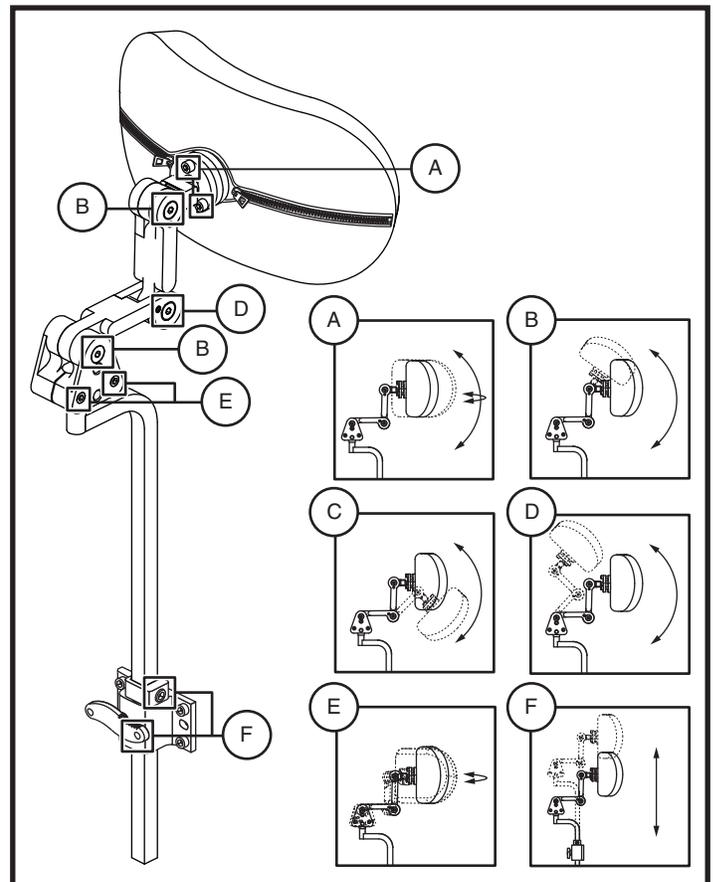

Figure 25. Headrest Adjustment Components
1. Loosen the adjustment screws that correspond to the desired adjustments. **See figure 25**.